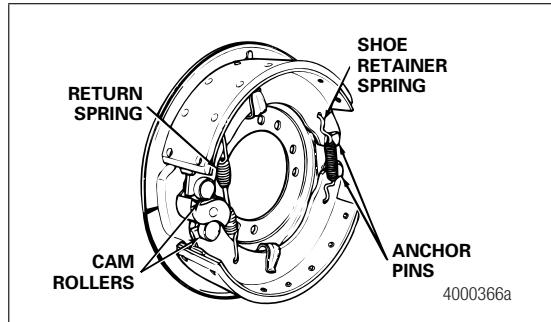

Figure 5.19
- Install a new brake shoe return spring with the open end of the spring hooks toward the camshaft. Install the brake shoes onto the anchor pins. Figure 5.19.